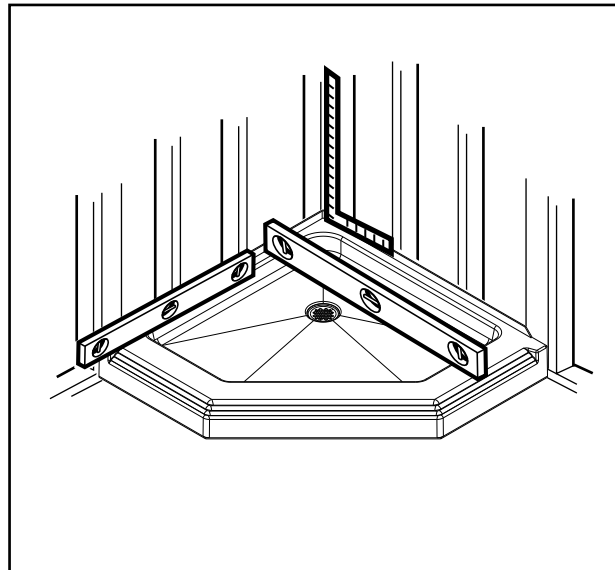

Figure 1
- 1 Attach drain to base. Position base in corner (*Figure 1*). Check that base is sitting flat on floor and that it is level and square to the wall studs. Minor adjustments can be made by shimming the bottom support. There should be no more than 1/8" gap between the top base flange and the wall studs. If needed, remove the base from the corner, shim as required, reposition base, and check again. Repeat as necessary.